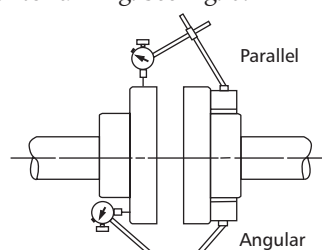

Figure 6
5.2.1. Even though the pump-motor unit may have a factory alignment, this could be disturbed in transit and must be checked prior to running. See Fig. 6.